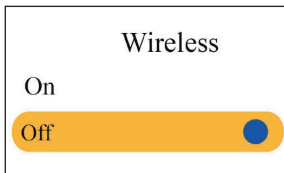

Figure 4.10E Wireless setup
- **Wireless:** To turn on/off the wireless connection function, the factory default is “On”, as shown in figure 4.10E.